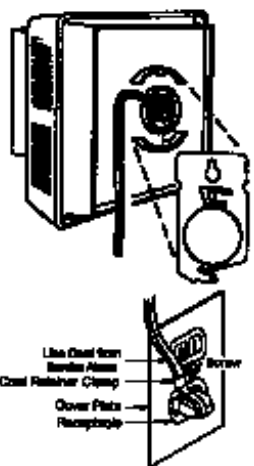

Figure 12
1. Connect line cord to unit as demonstrated in Figure 12.
5. Use the enclosed cord retainer clamp as illustrated in Figure 12 to insure the unit is not accidentally disconnected.